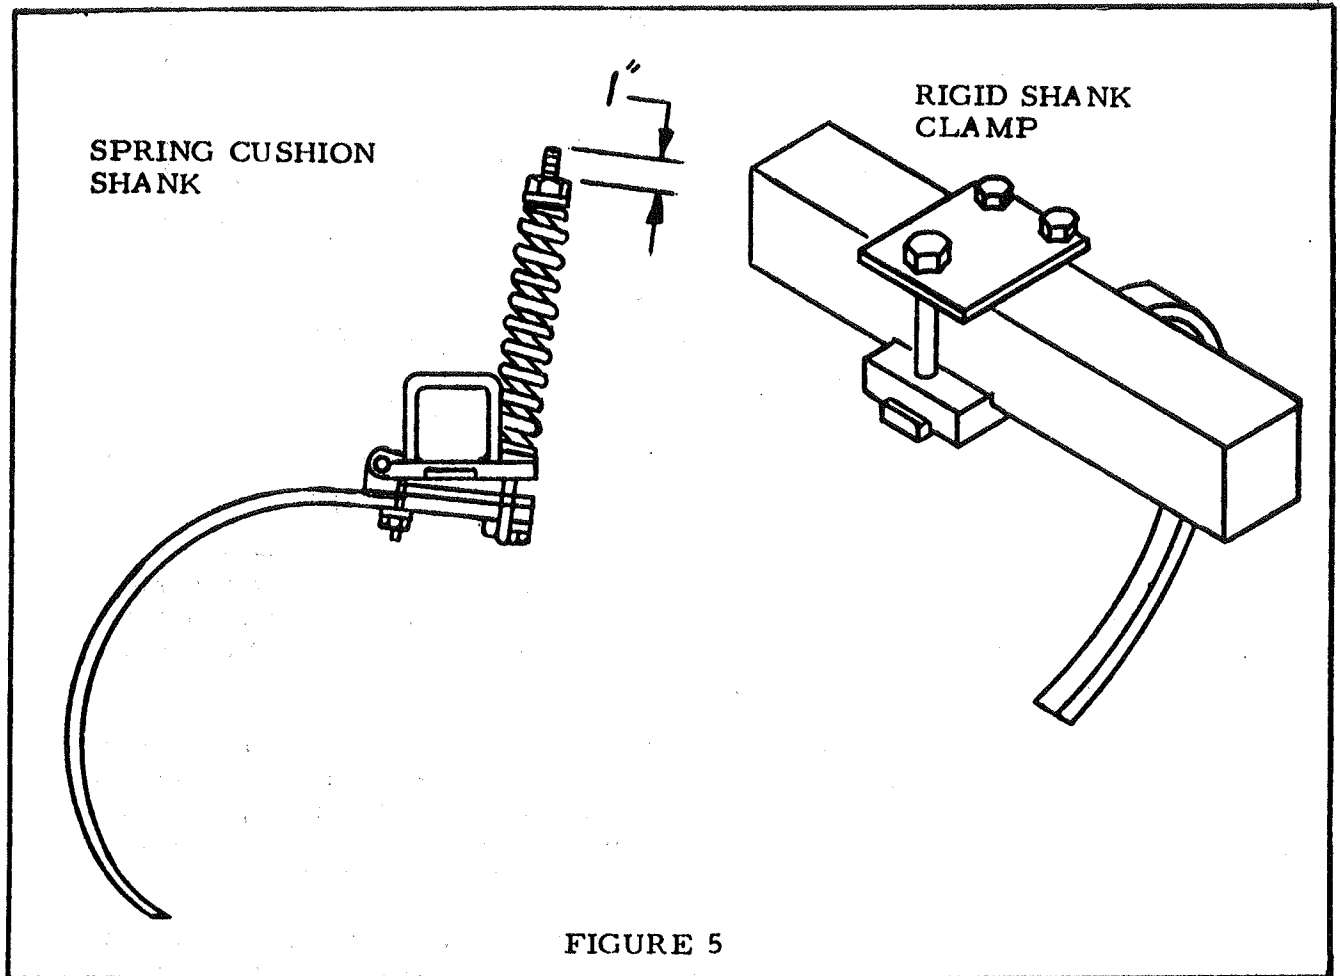
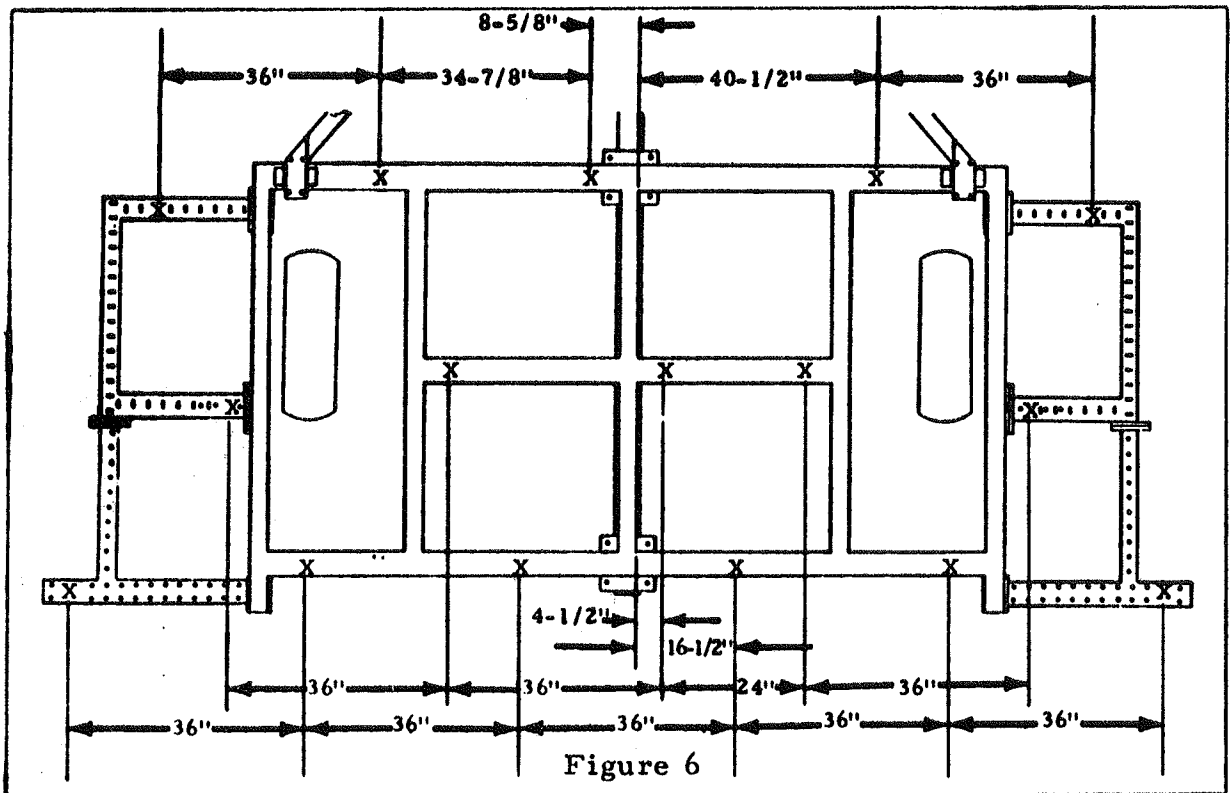

FIGURE 5
Figure 6
See figure 5 and figure 6 for assembly and location of shanks.
For field operation, the spring bolts should be tightened so that one inch of thread is exposed as shown in Figure 5. The user may want to clamp the spring tighter for chisel plowing tougher ground, but when this is done, the shank and tooth will not pass over as great an obstruction.
In Figure 6, the dotted portion represents the outermost portion of the 16' chisel plow. The dashes represent the outermost portion of the 14' chisel plow, and the small portion with both dots and dashes represents the outermost portion of the 12' chisel plow.
The shank clearance - 32" or 26" - refers to the distance from the bottom of the straight portion of the shank to the bottom point on a regular reversible chisel point which is new. See Figure 5.
2. Improper shank spacing (see Figure 6)